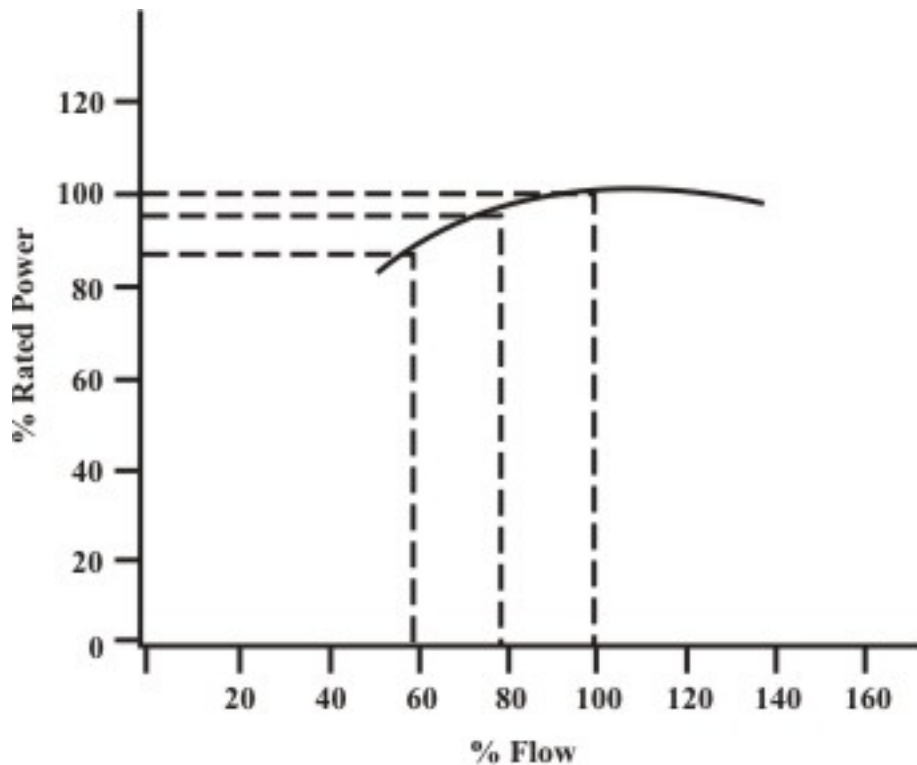

Fig. 31.6 Outlet Damper - Power Requirements
- B. Assume that the pressure-flow curve C shown in Figure 31.6 represent the characteristics of the output element of the system. Then,